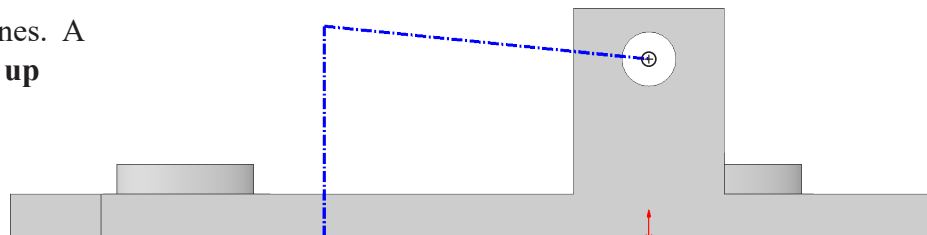

Fig. 49
Step 5. Sketch two centerlines. A **vertical centerline up from bottom edge and chained centerline to centerpoint of axle hole**, **Fig. 49**. To wake up centerpoint, hover cursor over circular edge.